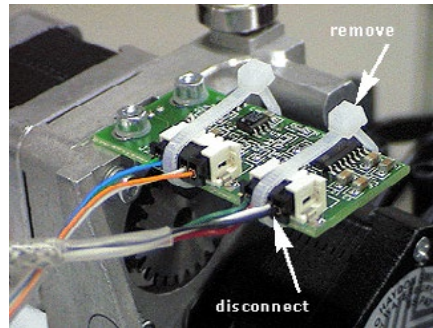

Figure 2 - Thread Feeder Home PCB
7. Disconnect the grabber/threadfeed/cc harness from the thread feeder home PCB located at the top center right behind the needlecase assembly (on the right above the thread feeder stepper motor). The grabber/threadfeed/cc harness threadfeed home lead is the four pin connector identified in Figure 2 above. The five pin connector is for the stepper motor interface cable.